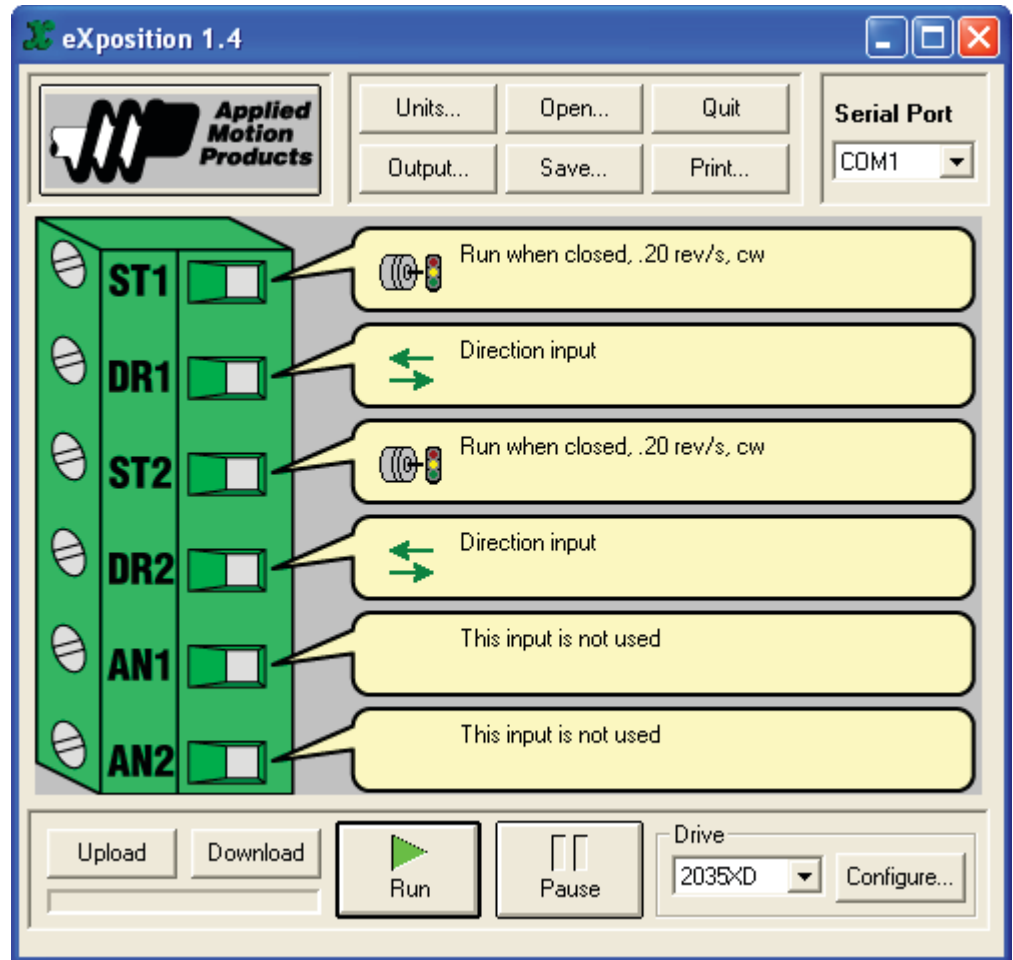

Figure 16. Fixed speed drive program.
3. Program the drive according to Figure 16. Note that the analog inputs (AIN1 and AIN2) are not used.